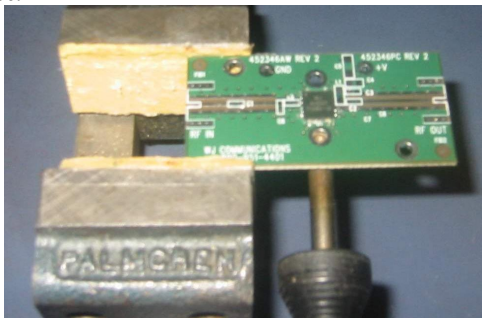

Figure 7. Heat is applied to the bottom of the PCB beneath the device.
7. The soldering iron should be applied to the backside of the PCB directly underneath the device as shown in Figure 7. The solder between the device and the PCB will start to melt and slowly attach the device.